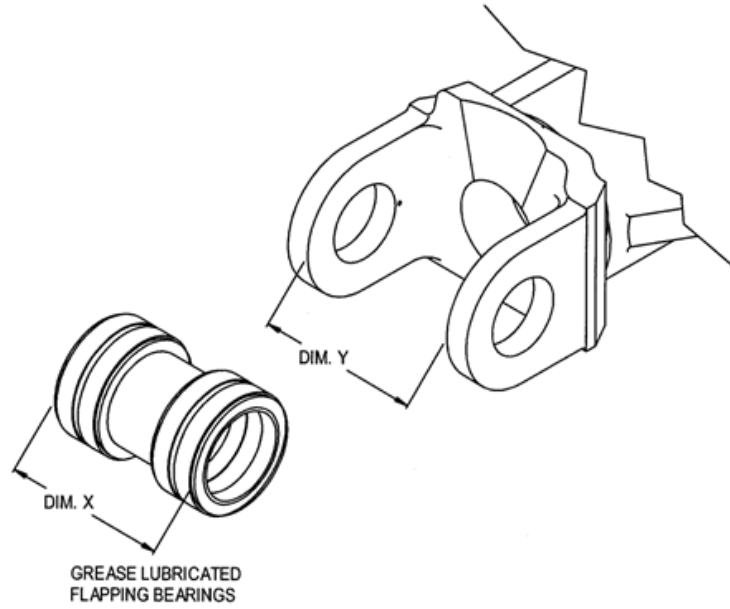
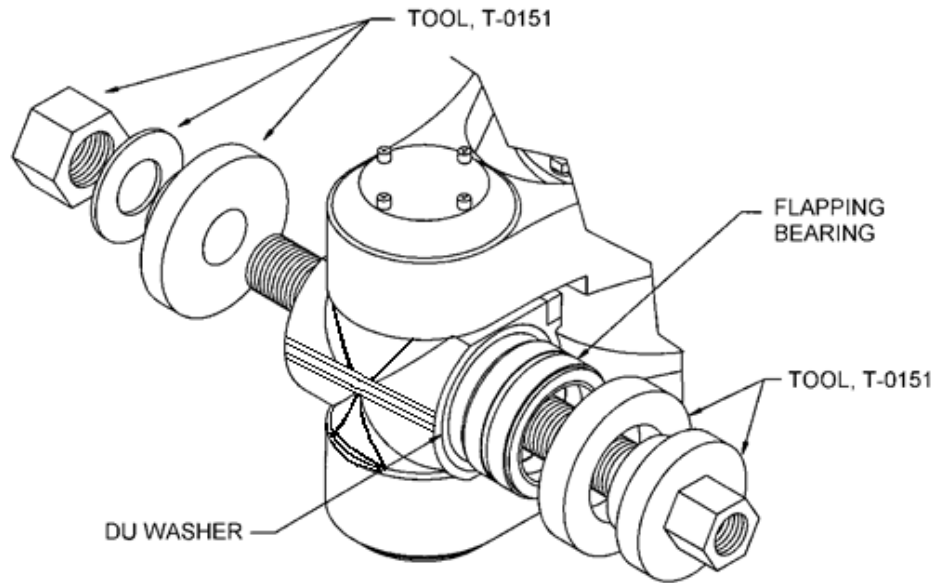
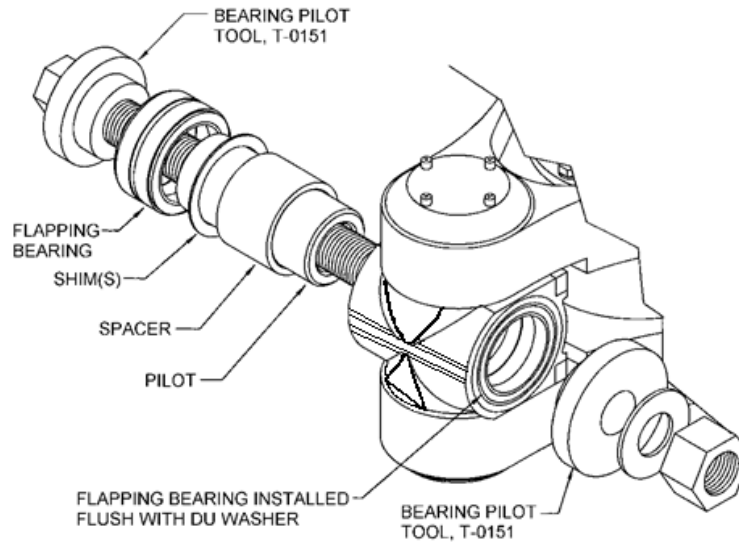
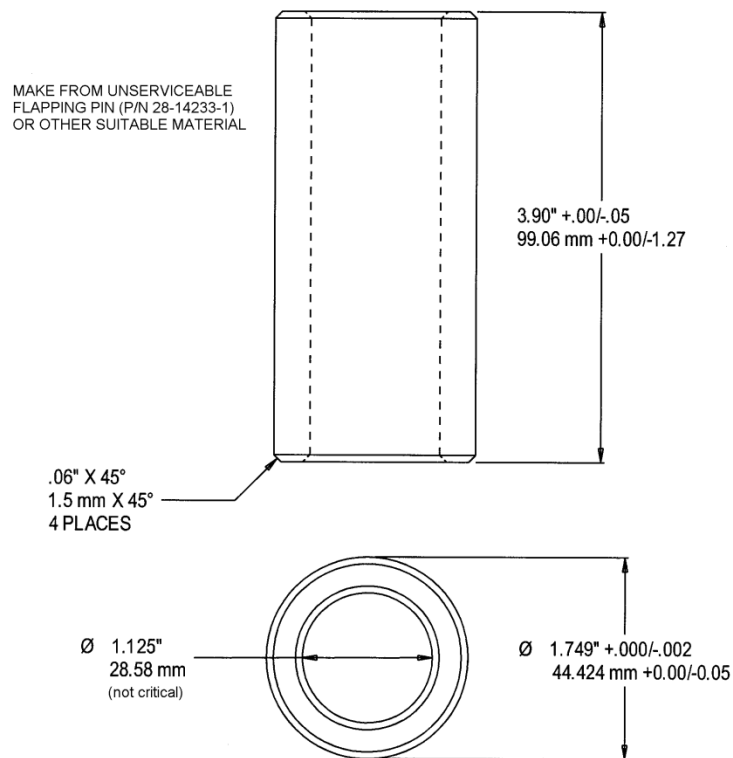

Figure 9-6. Flapping Bearing and Spindle Dimension Check
Figure 9-7. "Forward" Flapping Bearing Installation
Figure 9-8. "Aft" Flapping Bearing and Spacer Installation
Figure 9-9. Flapping Bearing Installation Alignment Tool
- (1) Refer to Table 9-1 for detailed inspection requirements.
C. Assembly – Universal Block (Figure 9-2, Figure 9-6, Figure 9-7, Figure 9-8, Figure 9-9)
- (1) Install stop blocks (21) and secure with screws.
- (2) Index mark the universal blocks and retention assemblies as sets.
- (3) Measure the stack up of two bearings (22) and one spacer (24) and measure the distance between the spindle fork (refer to Figure 9-6).
- (4) If the bearing and spacer stack up (DIM. X) is less than the distance between the spindle fork (DIM. Y), add shims (25) (P/N 28-14009-x) between the bearings and the spacer to create a zero tolerance fit.
- (5) Lubricate (MIL-G-25537) the bore of the U-block and the O.D. of the flapping bearings. Install a DU washer (23) in the recessed area on the "forward" side of the U-block and place the U-block in an arbor press with the "forward side" and DU washer up. Press a flapping bearing (22) into the U-block until it is flush with the DU washer (Figure 9-7).
NOTE: If desired, an alignment/installation pilot (included with the tool, T-0151-1) can be fabricated to aid in the installation of the bearing, spacer, and shims into the universal block (refer to Figure 9-9). This pilot may also be used to aid in installation of the flapping pin when installing the retention assemblies.